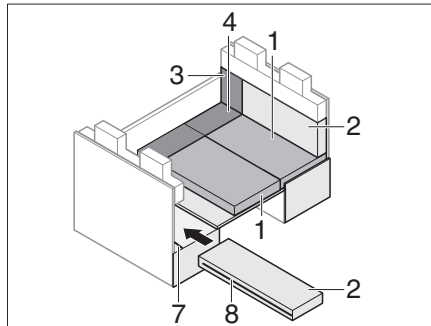

Fig. 182 During conversion
- Open the zip (Fig. 182,8) at the back cushion.
- Put the recess in the back cushion over the ISOFIX traverse (Fig. 182,7).